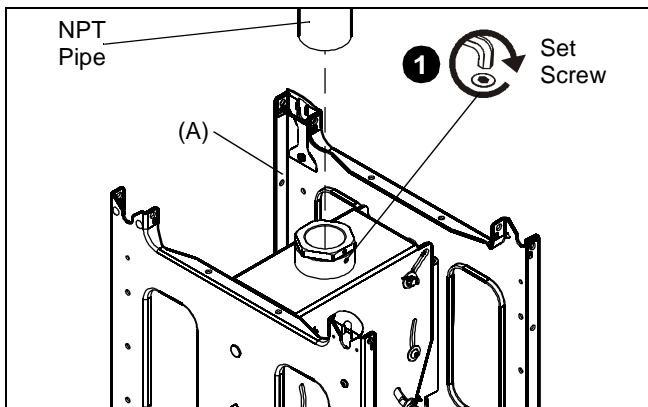

Figure 2
3. Thread the PDC (A) onto the NPT pipe extension and tighten set screw. (See Figure 2)